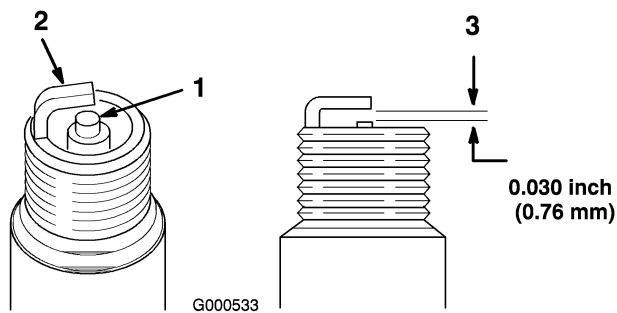

Figure 31
1. Look at the center of the spark plug(s) (Figure 31). If you see light brown or gray on the insulator, the engine is operating properly. A black coating on the insulator usually means the air cleaner is dirty.
2. Check the gap between the center and side electrodes (Figure 31). Bend the side electrode (Figure 31) if the gap is not correct.